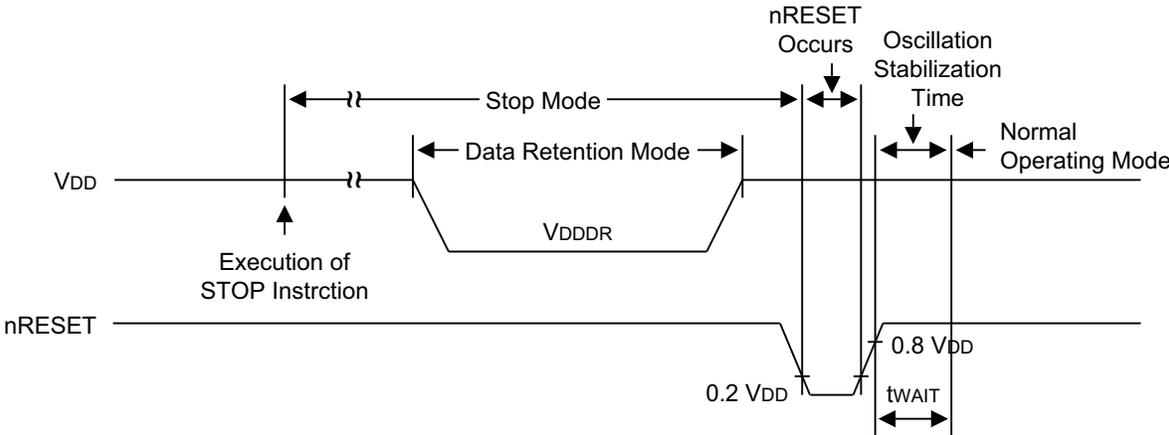

Figure 122. Stop Mode Release Timing Initiated by nRESET
► **Note:** In Figure 122,  $t_{WAIT}$  is the same as  $4096 \times 16 \times 1 \div f_{XX}$ .